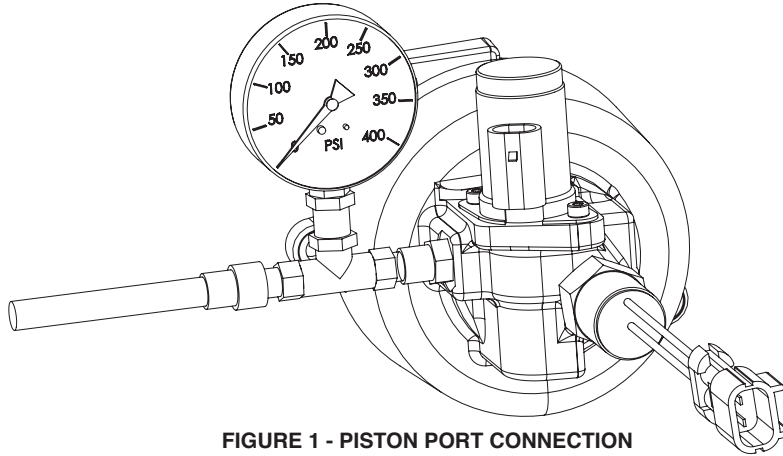

FIGURE 1 - PISTON PORT CONNECTION
3. Install a 400 PSI pressure gauge at the piston port of the FR66 PTO as shown in figure 1 below.